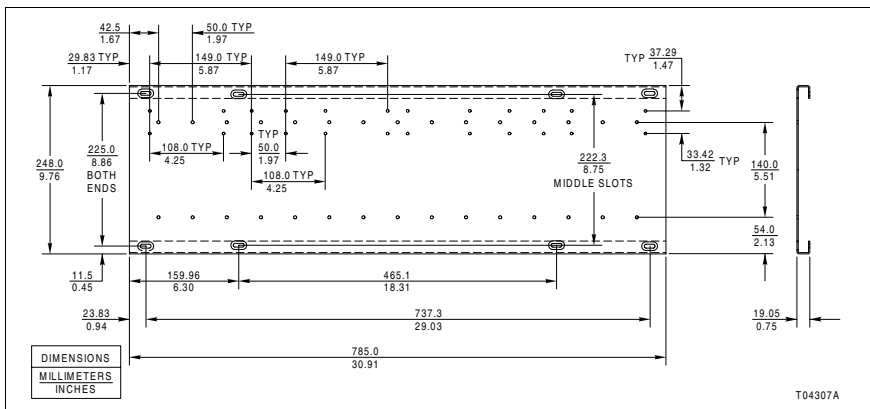
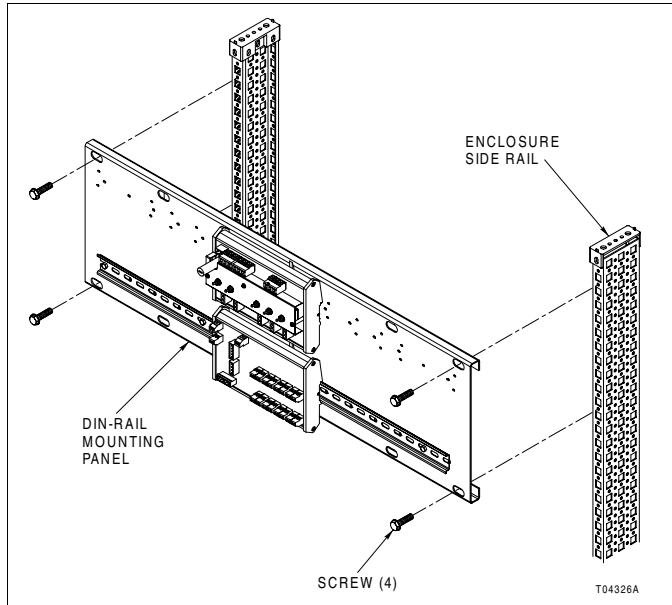

Figure A-1. Mounting Panel Dimensions
Figure PR2-1. Mounting Panel Installation
This section provides drawings showing dimensions for Harmony power system assemblies (Figs. A-1 through A-5).
2. Align then attach the mounting panel to the enclosure rails using four M5 screws as shown in Figure PR2-1. Refer to Figure A-1 for mounting hole spacing dimensions.